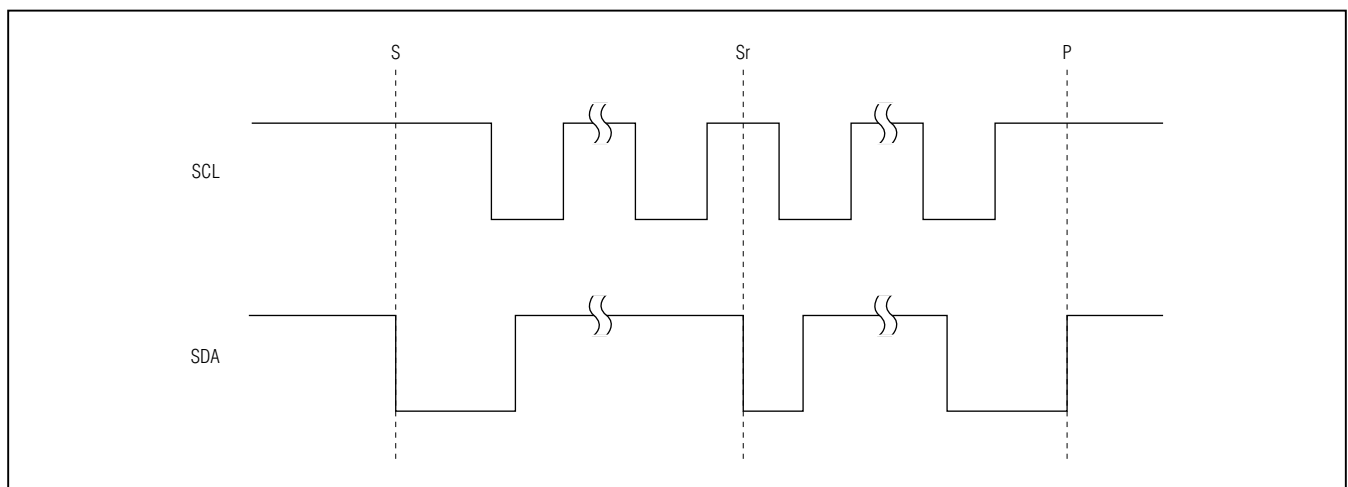

Figure 17. I2C START, STOP, and Repeated START Conditions
When writing to the MAX3108 using I2C, the master sends a START condition (S) followed by the MAX3108 I2C address. After the address, the master sends the register address of the register that is to be programmed. The master then ends communication by issuing a STOP condition (P) to relinquish control of the bus, or a repeated START condition (Sr) to communicate to another I2C slave. See Figure 17.